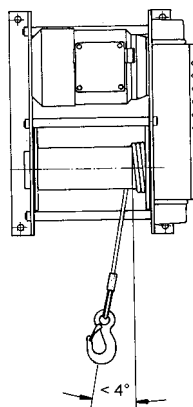

Fig. 7
- The winch can be fitted in any position, but the rope drum must always be horizontal. Allowable reeling angles and directions are shown on page 2. The wire rope must be kept a safe distance away from sharp edges such as frames or walls. If a pulley block is used it must be positioned so that rope deflection is not more than 4° , if possible less than $1,5^{\circ}$ (see Fig. 7 and 8).